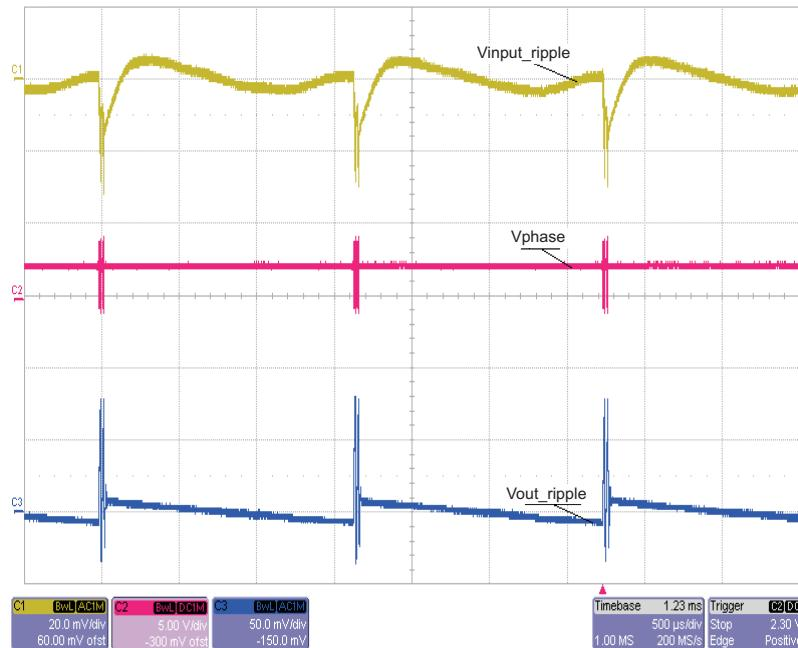

Figure 5. SNOOZE Mode. Vin = 4 V, Vout = 2.5 V, Iout = 3 mA; CH1 = Input Ripple; CH2 = Phase; CH3 = Output Ripple
7. Reduce load to 825 Ω (~3 mA), and set CH2 to 5 V/div (see Figure 5).